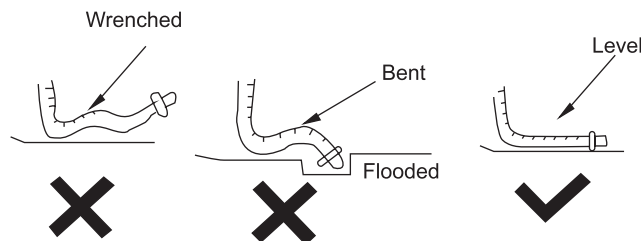

Figure 2
2. Do not wrench or bend the drain hose or flood its end by water (Figure 2).